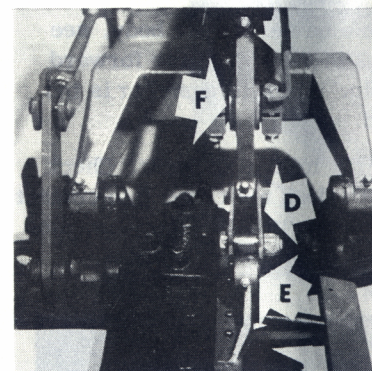

Fig. 13
- N.B. If the knife head links D, Fig. 13, do not fall over knife head E, this can be corrected using the washers F. In order to do this, unscrew the bolts and remove the swinging arm shaft. Take care to protect the bearing. Place both the washers E on the same side as the knife head link is displaced.